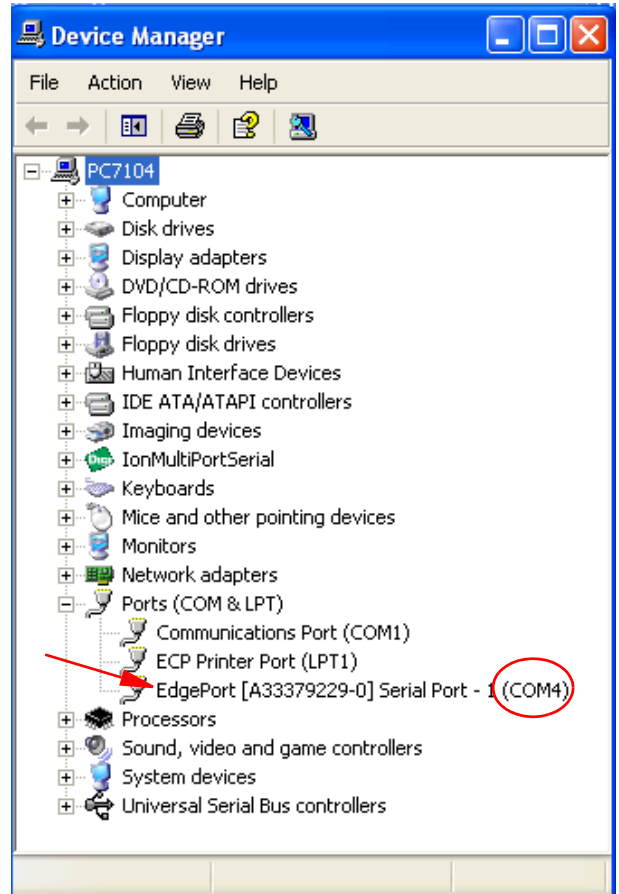

FIG. 8
5. Ports (COM & LPT) expands and displays the name of the newly installed adapter including the COM port it is using. See FIG. 8.